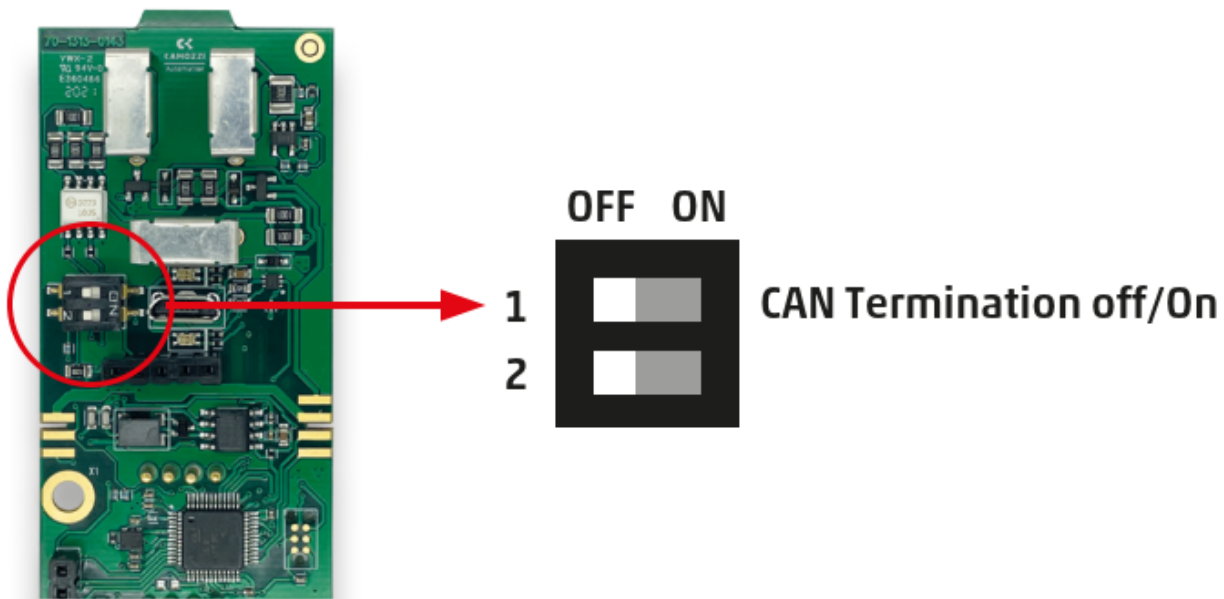

Figure 5.1: Switch to enable the CANopen termination resistor
In the case of CANopen control, the device accepts a setpoint within the range -10000 and 10000, which corresponds to the range -100.00% and 100.00%. If the device is the last node of the network, you must enable the termination resistor of the communication line by using the switch on the head module under the plastic cover (see figure 5.1).
- Network termination: the nodes at the ends of the network must have the terminating resistor enabled (see figure 5.1), in the example of the double acting positioner, the network consists of only two nodes. Therefore it must be enabled on both.